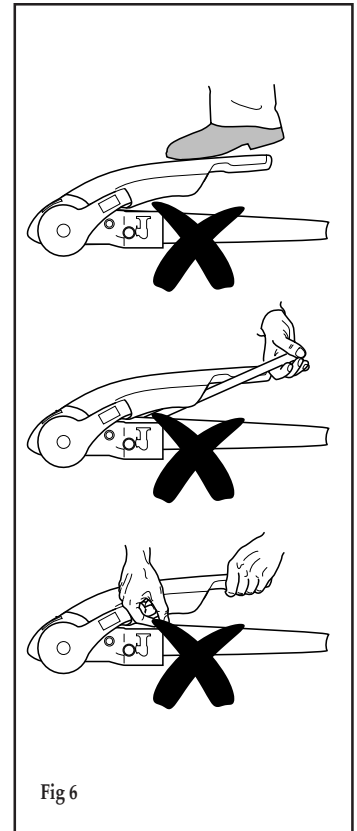

Fig 6
- Tighten the locking bolt socket using the wheel spanner provided (or torque wrench as shown) to wheel torque (ideally 86 Nm). (fig 6).
down by hand force only DO NOT use your foot or an extension bar, this will damage the components (Fig. 6).
3) When opening or closing the stabiliser lever, please ensure your hand does not touch the coupling handle - you may accidentally trap your fingers! (Fig. 6).